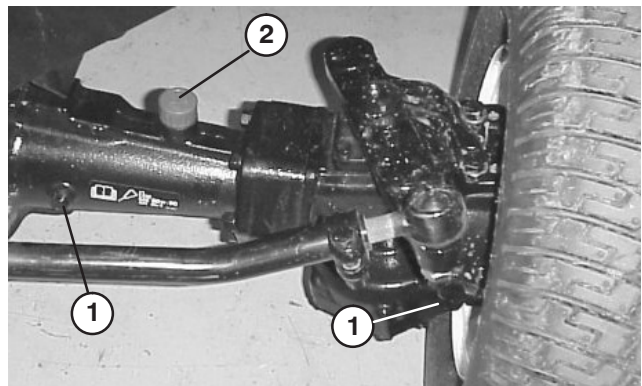

Figure 16
2. Remove check plugs (3) from axle and make sure lubricant is up to bottom of each hole (Fig. 16 & 17).